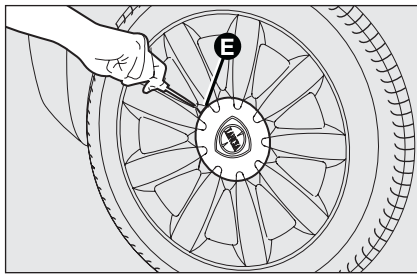

fig. 11
- ❑ for cars fitting alloy rims, remove the hub cap using the screwdriver provided levering in groove **E**-**fig. 11**, as shown in the figure;